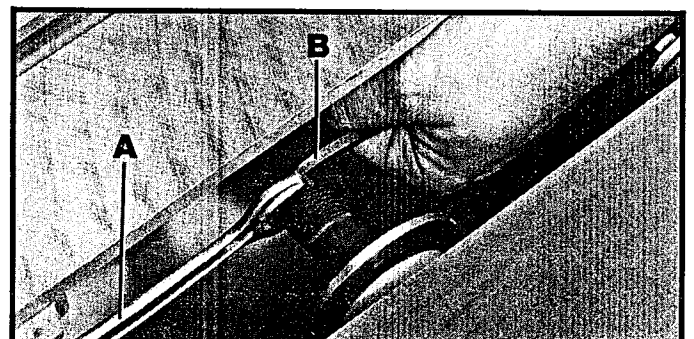

Fig. 4
1. Place the Dado extension on the arbor and tighten with wrench (A) Fig. 4, while holding arbor with allen wrench (B) inserted into end of arbor as shown.